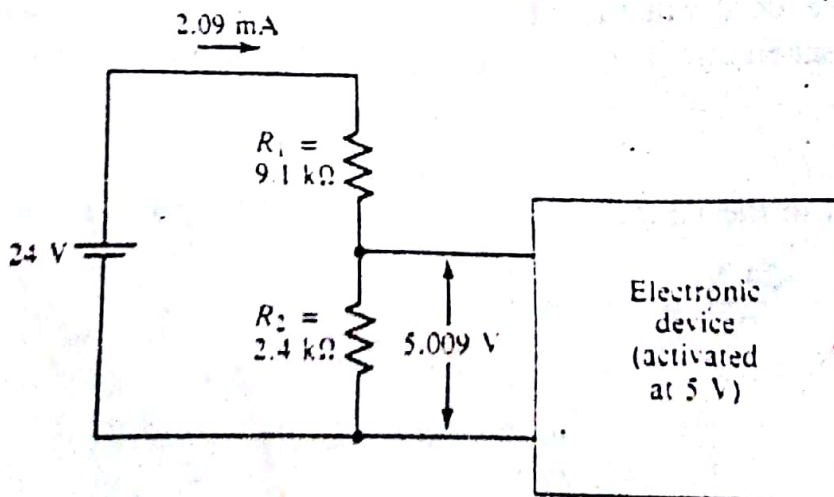

FIGURE 4.21 (Example 4.10)
- (b) From the table of standard resistor values given in Chapter 3, we see that $2.4 \text{ k}\Omega$ is a standard 5% value and that the standard value closest to $9.12 \text{ k}\Omega$ is $9.1 \text{ k}\Omega$. Using these values, our completed design is shown in Figure 4.21. Checking the design, we find